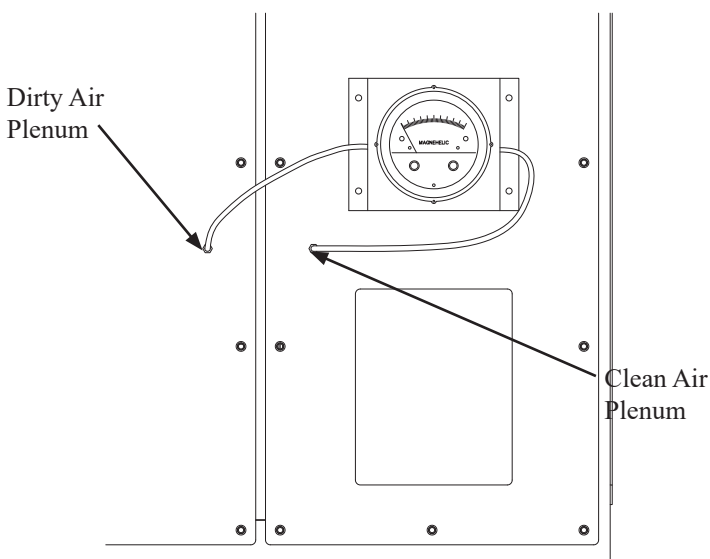

FIGURE 13
4. Mount the bracket using the four (4) self-taping screws provided.
5. Using the 1/4" diameter clear tubing connect the "LOW" or "-" pressure port on the gauge to the clean air plenum and the "HIGH" or "+" pressure port to the dirty air plenum (Figure 13).